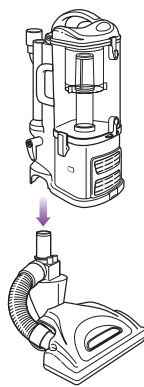

Fig. 10
- 2 Align the tube of the floor nozzle with the tube on the Lift-Away® canister and lower until you hear the two pieces click into place. (Fig. 10)